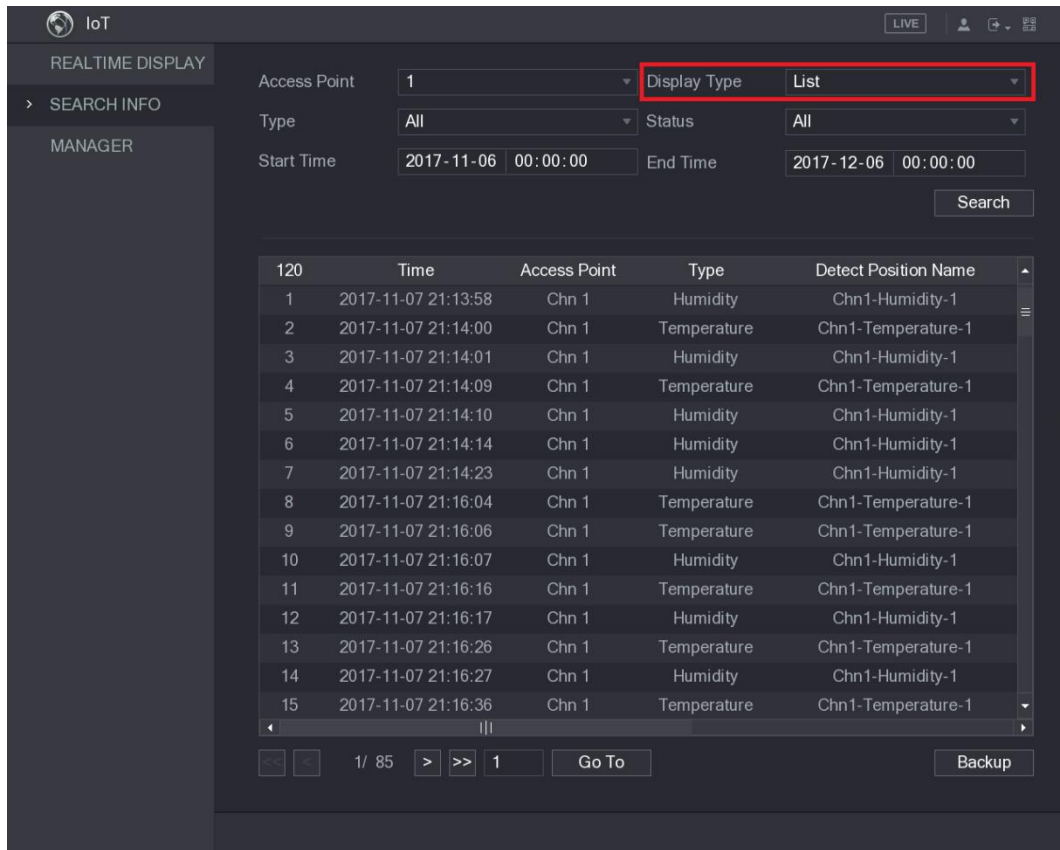

Figure 5-190
- For the data displayed in list, see Figure 5-190.